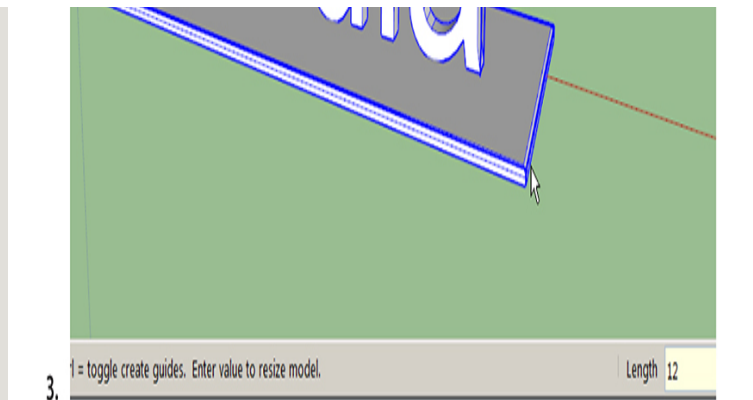

Figure 3-23 Scale the model with the Tape Measure.
6. Scale the model with the Tape Measure (Figure 3-23). At 2'11", this model is too big. Let's make it 12" long. With the Select tool, drag a window around the text and base to highlight them. Then click the Tape Measure on the base's left and right sides. With the second click, a pop-up will appear telling you